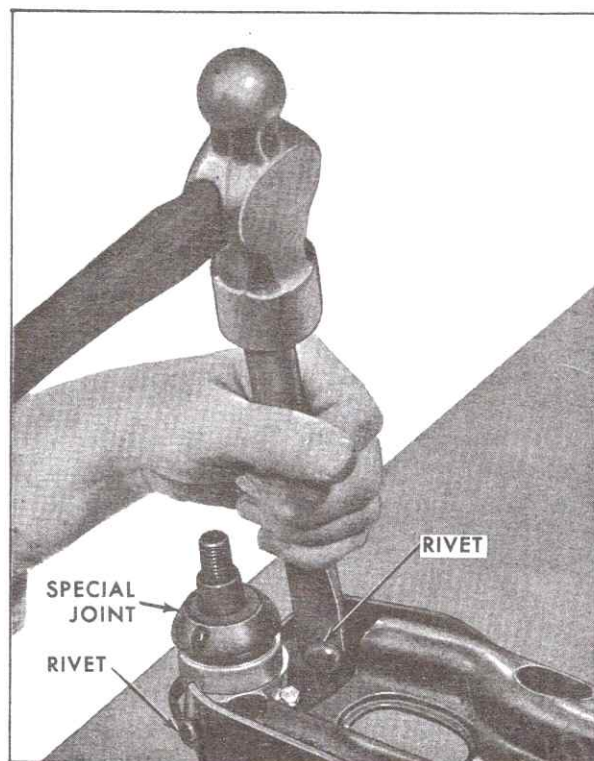

Fig. 3-40 Removing Lower Spherical Joint Rivets
3. Using a chisel, cut two rivet heads off as shown in Fig. 3-40.